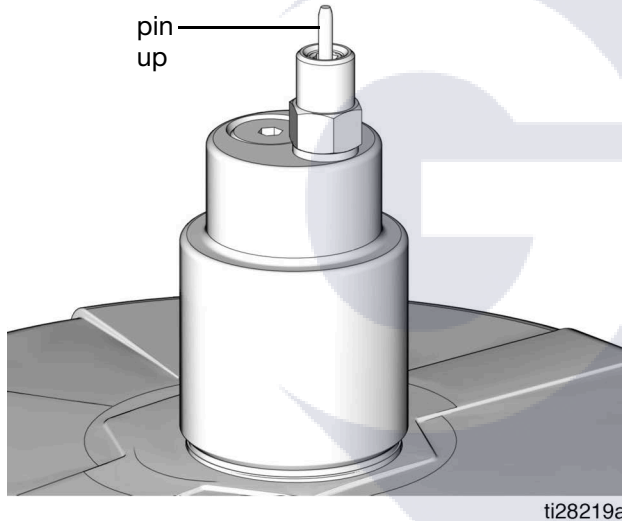

FIG. 18
3. Remove yellow Dust Cover from Fill Coupler (M).
4. Connect Supply Hose (J) between the Remote Filling Station Pump (F) and Fill Coupler port marked with an "I".
5. Start Remote Filling Station Pump (F).
6. When the G3 Reservoir (D) is filled:
- the Remote Filling Station Pump (F) stalls (dead-heads),
- the Auto-Fill Shut Off (B) pin pops up as shown in FIG. 18,
- the Pressure Gauge (R) rises to the fill pump's set pressure.